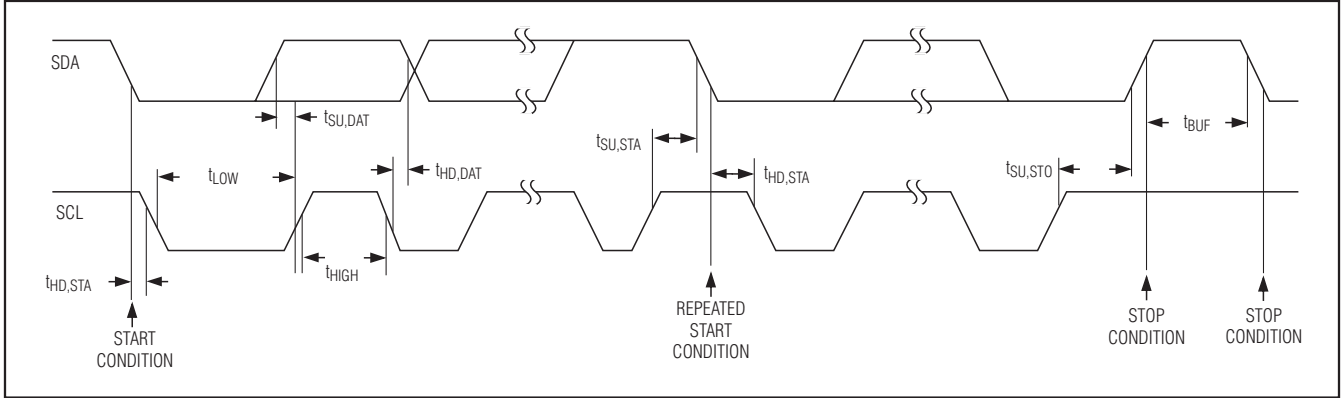
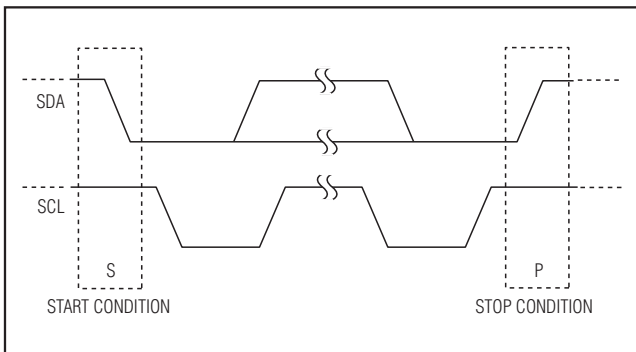

Figure 5. I²C Interface Timing Diagram
Figure 6. I²C START and STOP Conditions
The interface uses a serial-data line (SDA) and a serial-clock line (SCL) to achieve bidirectional communication between master(s) and slave(s). A master (typically a microcontroller) initiates all data transfers to and from the MAX8831, and generates the SCL clock that synchronizes the data transfer (Figure 5). The MAX8831 SDA line operates as both an input and an open-drain output. A pullup resistor, typically 4.7kΩ, is required on SDA. The MAX8831 SCL line operates only as an input. A pullup resistor, typically 4.7kΩ, is required on SCL if there are multiple masters on the 2-wire interface, or if the master in a single-master system has an open-drain
SCL output. Each transmission consists of a START condition (Figure 6) sent by a master, followed by the MAX8831 7-bit slave address plus a R/W bit, a register address byte, 1 or more data bytes, and finally a STOP condition (Figures 5 and 6).
Both SCL and SDA remain high when the interface is not busy. The master signals the beginning of a transmission with a START (S) condition by transitioning SDA from high to low while SCL is high. When the master has finished communicating with the slave, it issues a STOP (P) condition by transitioning the SDA from low to high while SCL is high. The bus is then free for another transmission (Figure 6).